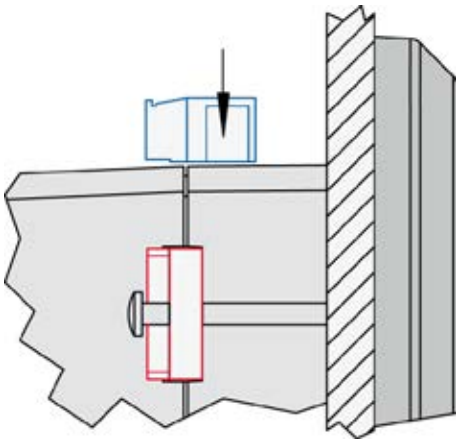

Fig. 13: Reattach terminals
7. → Reattach the wire connection terminal strip (Fig. 13) and secure them with the side screws.